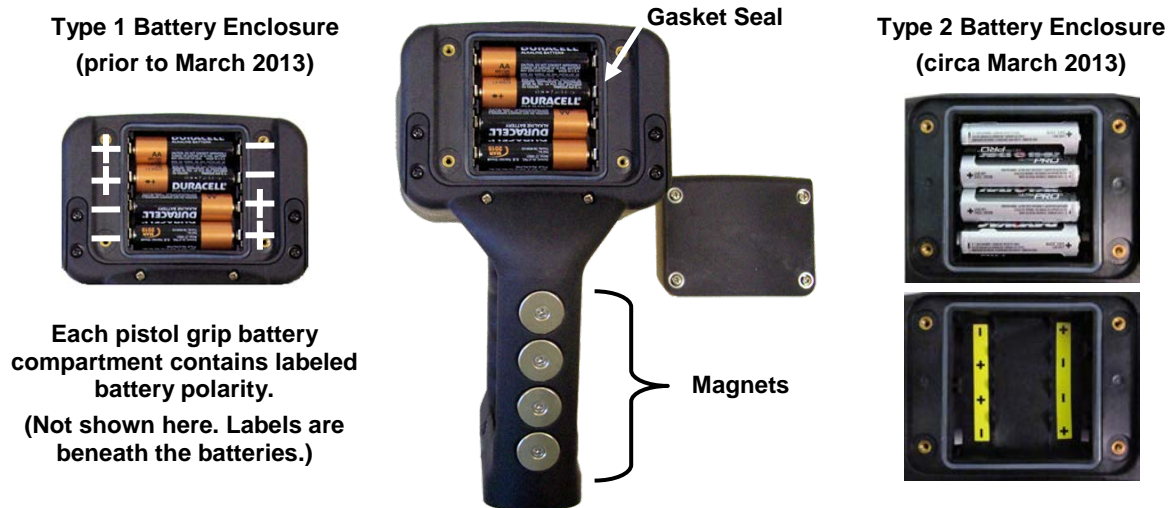

Figure 3. SmaRT PG-X14 Pistol-Grip Battery Installation
2. Install (or replace with) four (4) fresh size AA batteries. Observe the proper polarity by positioning the batteries as shown in Figure 3.